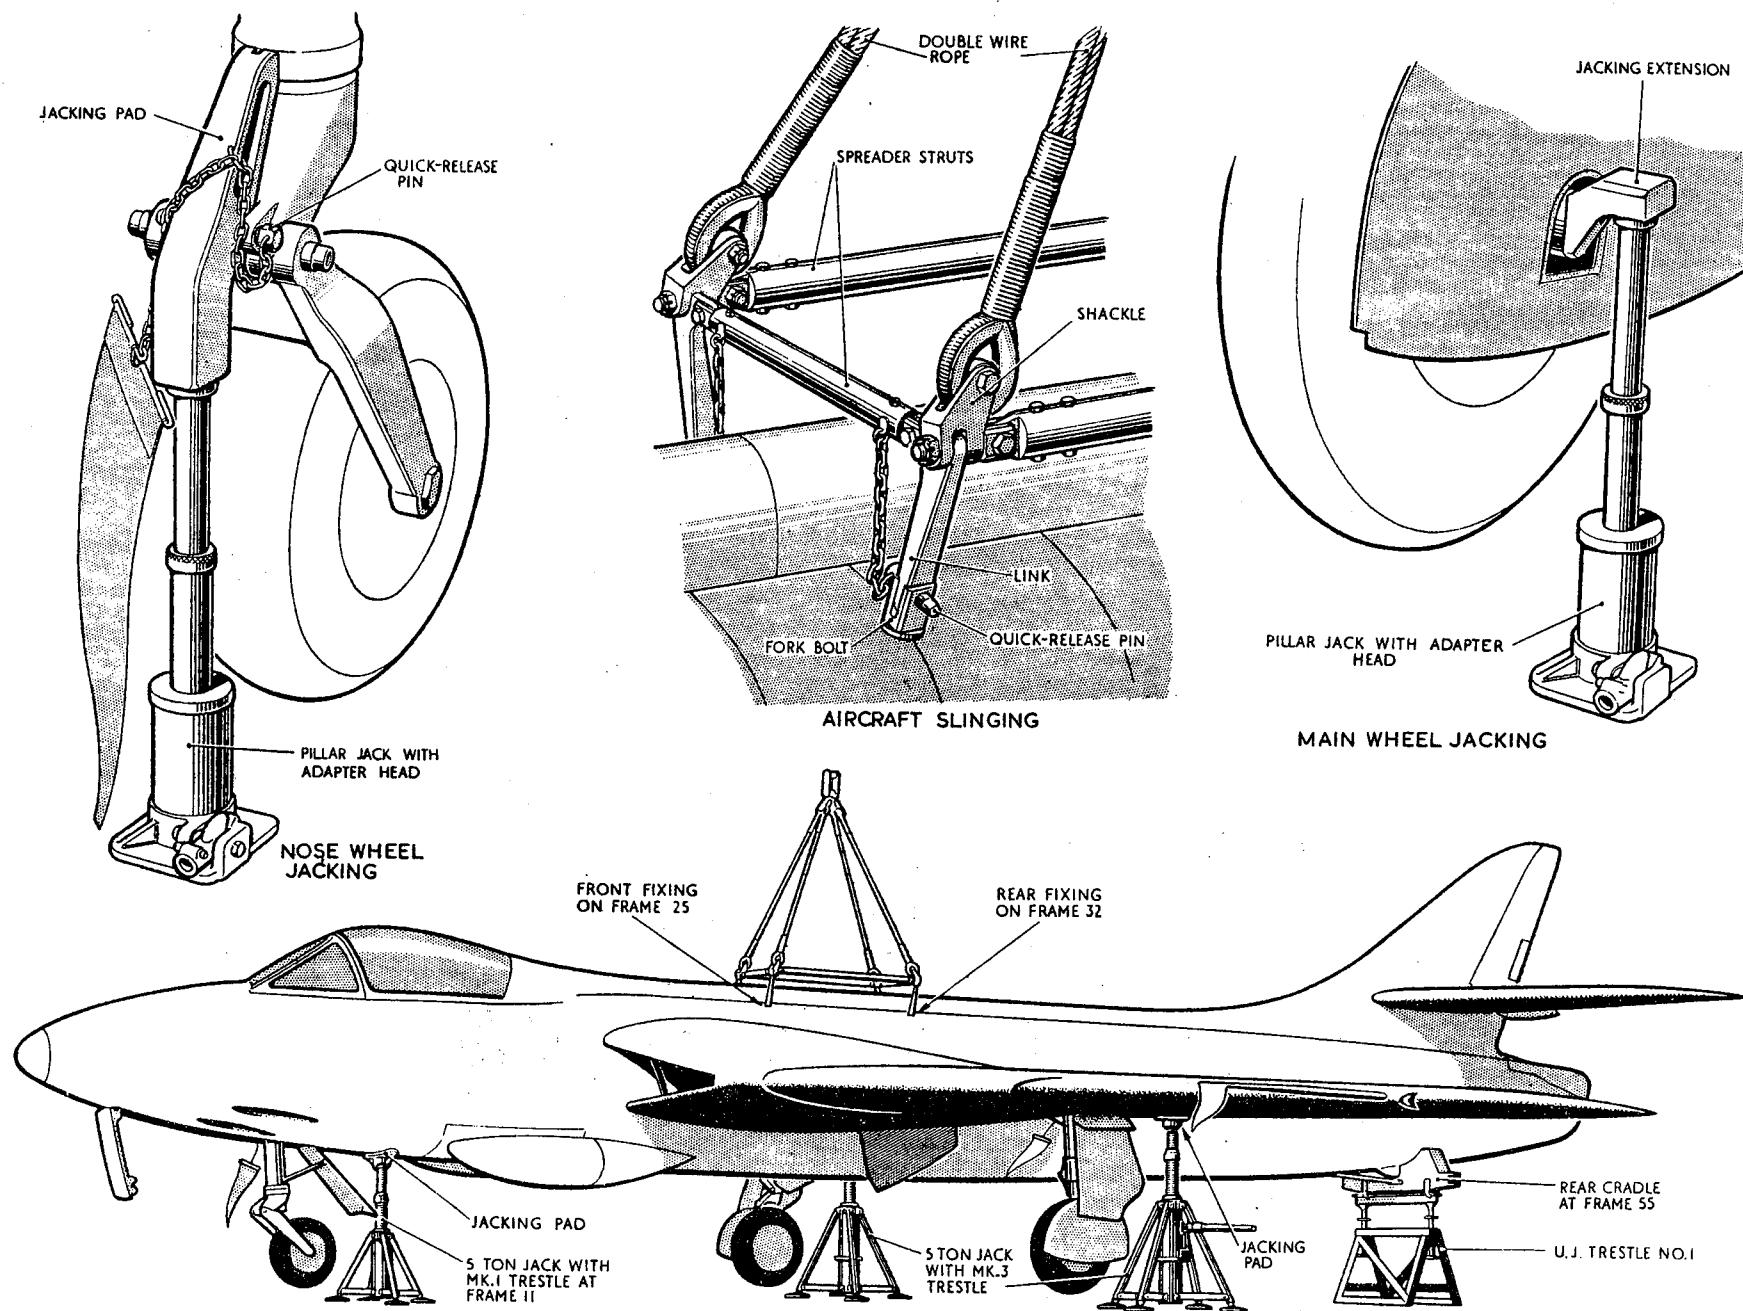

Fig.2 Jacking, trestling and slinging
- (1) Jack up the aircraft (fig.2) and retract the alighting gear.
- (2) Position the component trestles to fully support the aircraft.
- (3) Remove the outer wings (Sect.3, Chap.2) after removing any external stores which may be fitted.
6. The methods to be employed and the jacks, trestles, etc., to be used when jacking, slinging and trestling the complete aircraft for servicing are illustrated in fig.2. It should be noted that the fuselage jacking pad has a concave bearing surface and must not be interchanged with the wing jacking pad, which has a flat bearing surface.
10. When checking the alignment of the structure by means of the diagonal dimensions given in fig.5, there is no need to trestle the aircraft. When the incidence and dihedral are being checked, the aircraft must be trestled in the flying position, with the equipment shown in fig.2. The procedure for rigging is as follows:-